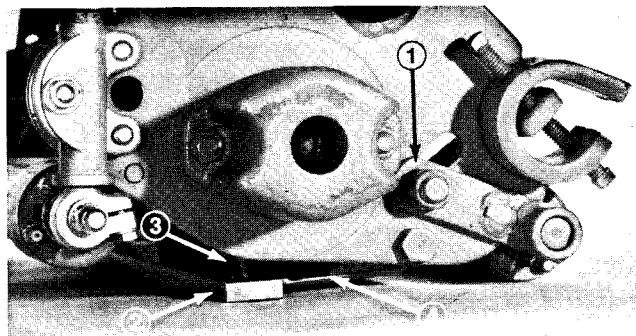

Figure 11
1. Loosen rear roller brackets. Adjust one bracket and tighten the nut on the capscrew. See the table below for the proper adjustment. Leave bracket on the other side mounted loosely (Fig. 11).
2. Place a 1/4 inch (6 mm) or thicker plate under the reel blades and against the cutting edge of the bedknife (Fig. 11).